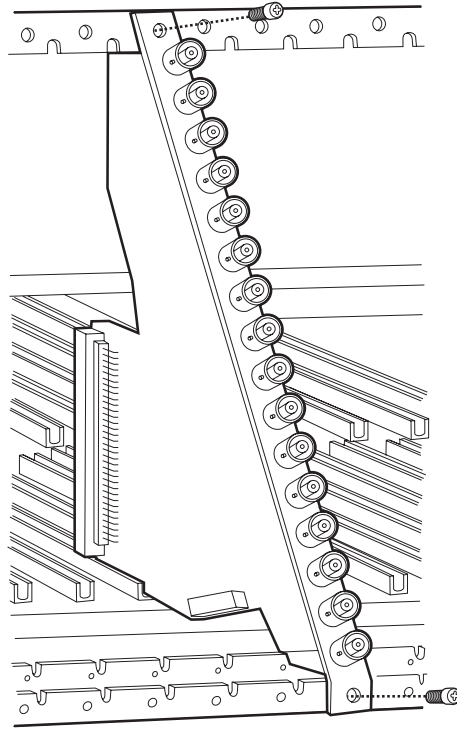

Figure 25. CM9760-DFL Downframe Looping Card Installation
- Slide the new card into the card guides (refer to Figure 25).